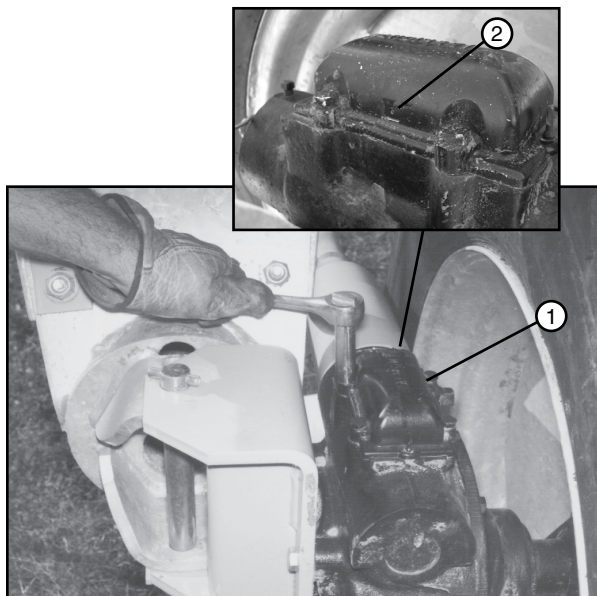

Figure 42-2 1. Expansion Chamber Cap
3. Clean all of the dirt away from the expansion chamber cap and remove the expansion chamber cap. Do not allow dirt to fall into the gearbox when removing the cap. See figure 42-2.